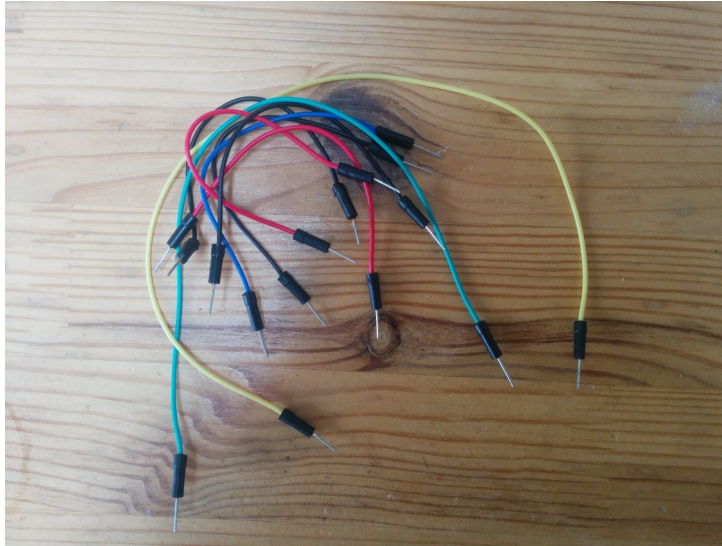

Figure 2 – An example of jumper wires
2. To connect the breadboard to the STM32F7 discovery board you will need some male to male jumper wires. Figure 2 shows some solid core jumper wire.